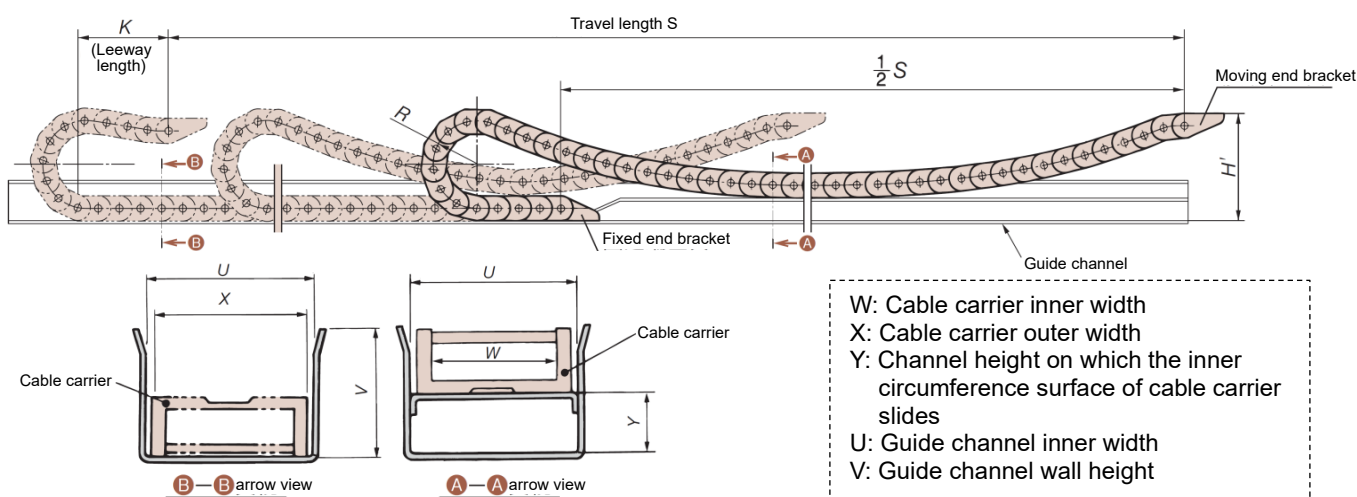

Fig. 1 Guide channel cross section
For cable carriers with gliding arrangement, it is necessary to install two types of channels (*1) with different cross-sectional shapes as shown in Fig. 1.
*1 Channels with the cross-sectional shape in the A-A arrow view in Fig. 1 are called H channels. Channels with the cross-sectional shape in the B-B arrow view are called U channels.
(2) Channel installation precision